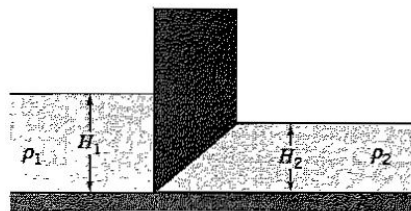

Figure P2.38
2.38 Figure P2.38 shows a very delicate balancing act. On one side of a weightless wedge there is fluid of density ρ_1 , and on the other side there is fluid of density ρ_2 . If the wedge is just balanced, find the ratio ρ_2/ρ_1 in terms of H_1 , H_2 and θ .